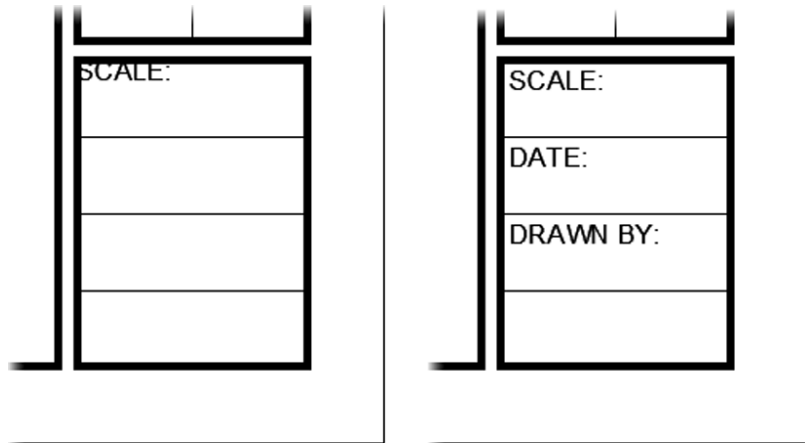

FIGURE 8.50: One line of text placed (left) and the completed title-block labels (right)
The word *SCALE*: appears in the lowest box (see the left image of Figure 8.50). Don't worry about the box's boundary overlapping the *SCALE* text, as you'll fix this in a moment.
17. Pick any point in the drawing as a base point, and enter **@3,-3↵** (**@75,-75↵**) for the second point to move the labels into place (see the right image of Figure 8.50).